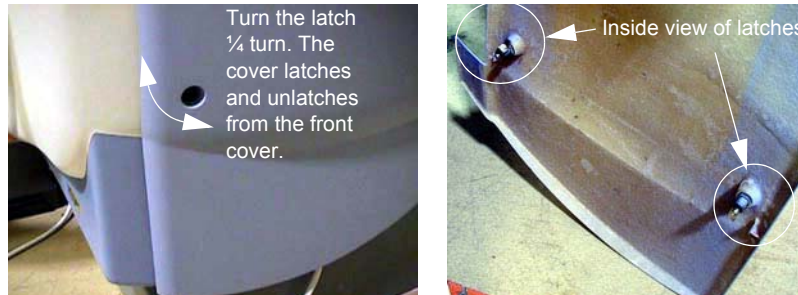

Figure A-2 Side Cover Latches
- 2.) Use an 8mm Hex wrench to unlatch the side cover from the front cover. See Figure A-2.